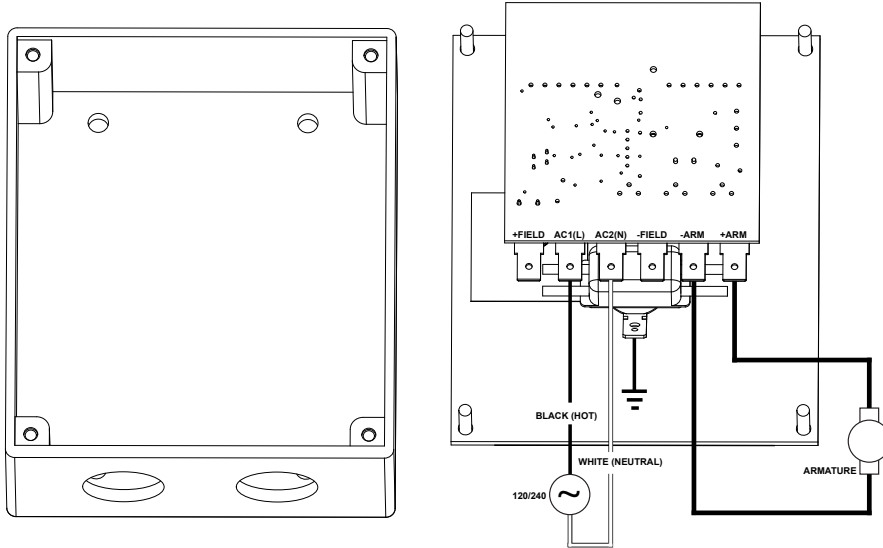

Figure 3 - Control Terminal Connectors
Make connections to the control and the motor in accordance with the Connection Chart. The control terminal 1/4" spades (Figure 3) are located inside the control enclosure on the PC board. To ground the control mounting plate, connect ground wire to the ground terminal located on the on/off switch
- Check all the connections at the control terminals and at the motor. Make sure that they are tight and are made according to Figure 3 and the Connection Chart.